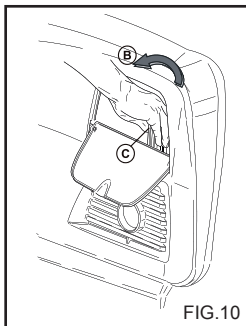

FIG.10
This chapter concerns only those models provided with the "pressure regulating" device. The pressure regulator, fig. 10, allows the operator to adjust the working pressure. When knob C is turned in an anti-clockwise direction (B) (minimum), the working pressure is reduced.